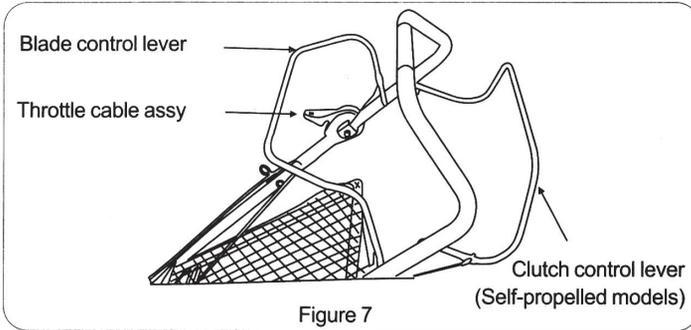

Figure 7
3. Collect the BLADE CONTROL LEVER (see Figure 7) braking the engine together with the upper handle and then start the engine.
4. Collect CLUTCH CONTROL LEVER (see Figure 7) controlling the clutch together with the upper handle and then start the engine.
5. Should change the moving direction, please release the CLUTCH CONTROL LEVER (see Figure7), and then turn.
6. When the collector is full, please release the CLUTCH CONTROL LEVER and then release the BLADE CONTROL LEVER (see Figure 7).